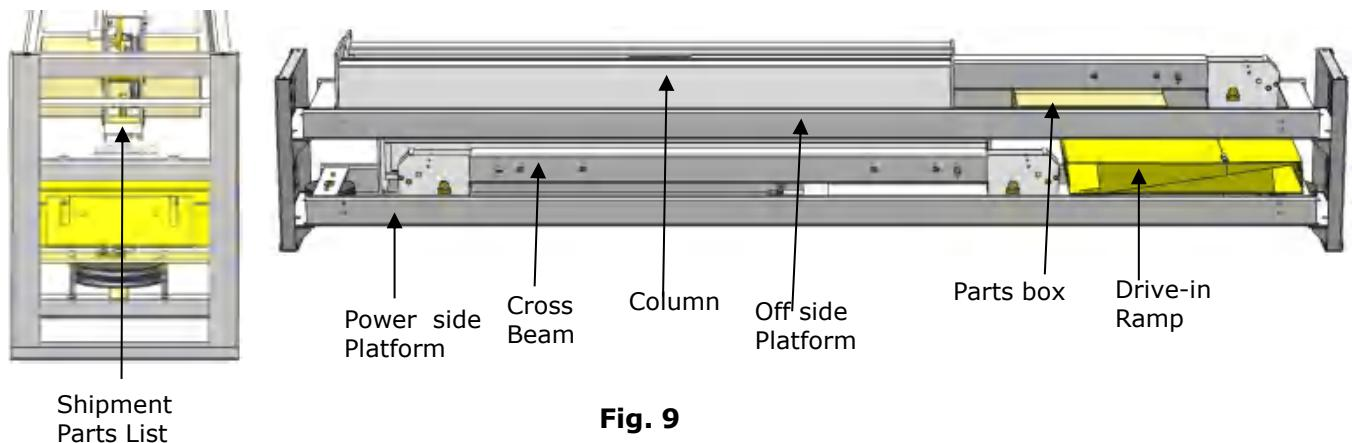

Fig. 9
2. Move the lift aside with a fork lift or hoist, open the package and check the parts according to the shipment list. (See Fig. 9).